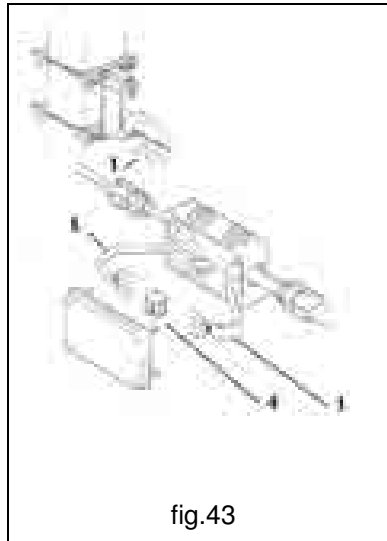

fig.43
1. Connect the electric cable **1** to the terminals **4** contained in the connector block, to be applied to the column or load-bearing wall and to which the cable of line **L** coming from the power supply will be connected ( fig.43 ).